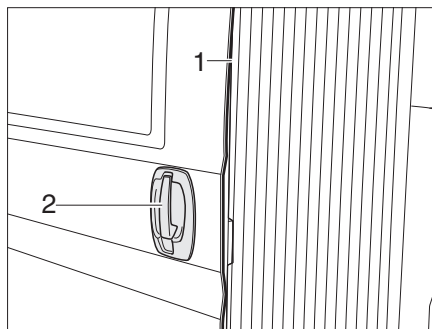

Fig. 16 Sliding door, electric - door handle on outside
- ▶ In order to avoid bruising caused by the electric sliding door, the closing edge has a contact strip (Fig. 16, 1). When contact is made, the movement of the sliding door is stopped immediately.
Opening: ■ Pull the door handle (Fig. 16,2). The electric sliding door opens completely.
Closing: ■ Pull the door handle (Fig. 16,2). The electric sliding door closes and latches into the door lock.